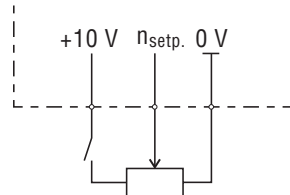

Fig. 66
- Potentiometer setpoints are switched via the +10 V supply, not the wiper lead (→ Fig. 66).